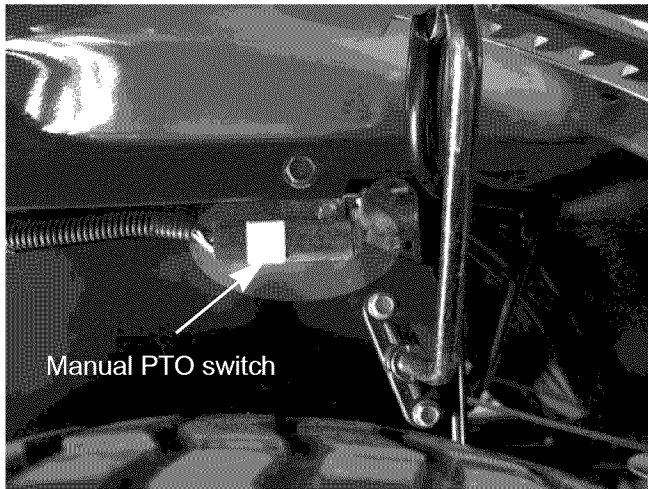

Figure 7.11
- The manual PTO switch is mounted on the right side of the seat box section of the frame. See Figure 7.11.